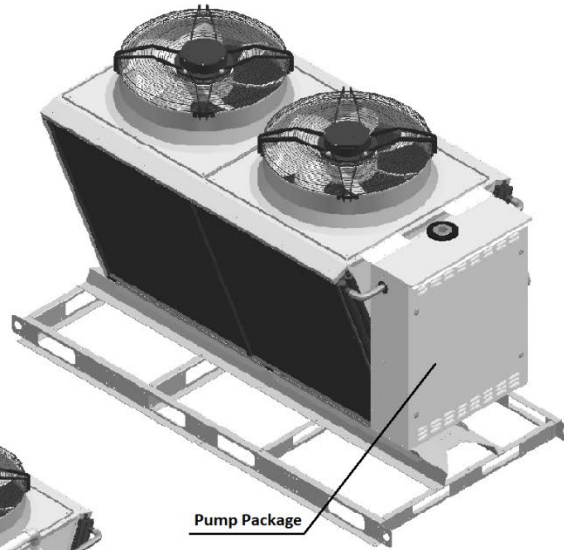
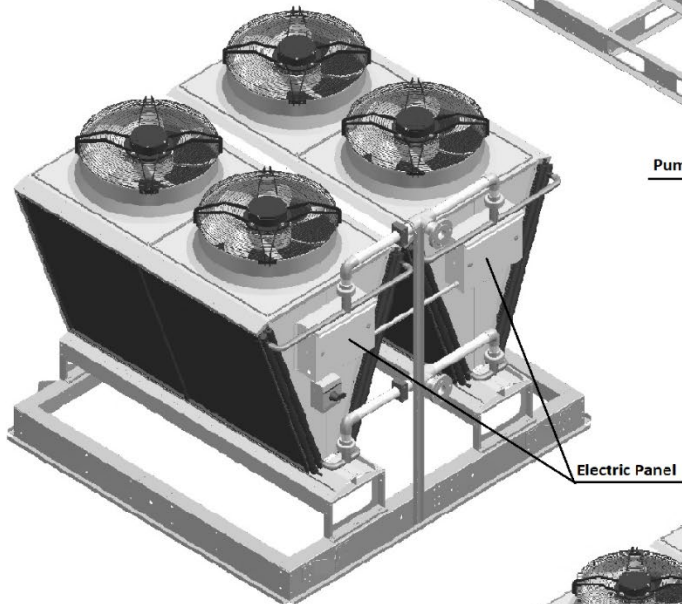
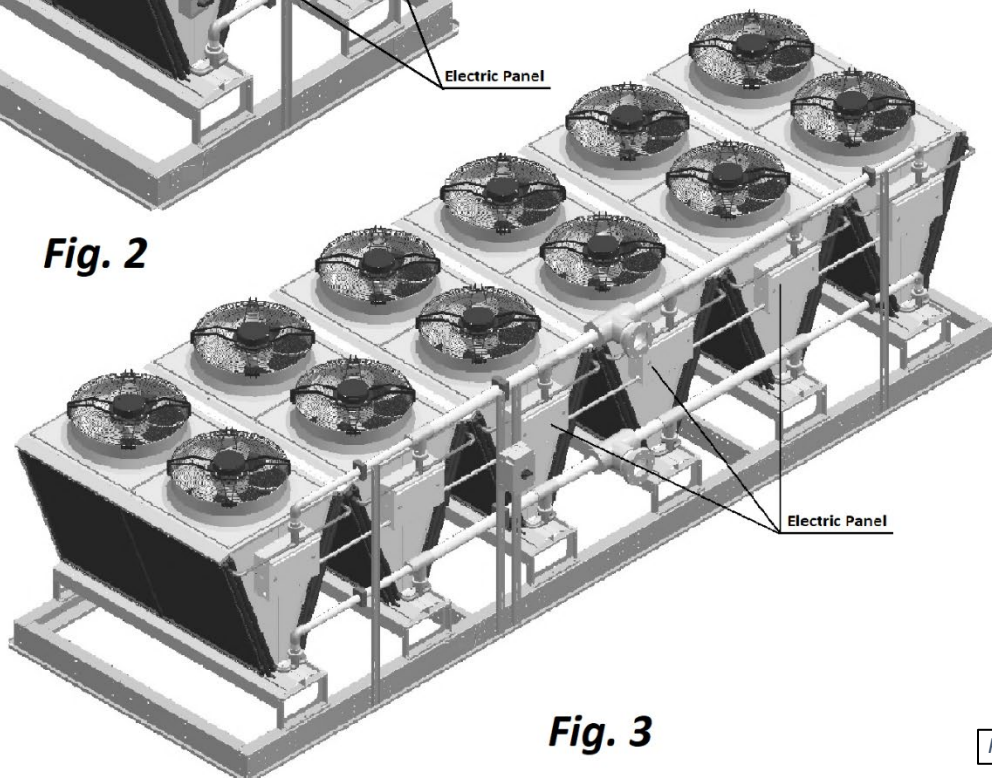

Fig. 1
Fig. 2
Fig. 3
For two-compressor dehumidifier, compressor compartment may have side (Fig.1; same as dehumidifier, shown on Pic. C.1) or end (Fig.2) location. End location is mostly used in higher capacity dehumidifiers.
Three -compressor dehumidifiers (Fig.3) normally have end location of the compressor compartment.
- Fluid cooler NG-V-12 (Pic.C.4, Fig.1) is composed of one such block; NG-V-22 (Fig.2) composed of two such blocks etc. largest single fluid cooler, NG-V-62 (Fig.3) composed of six of them.
As an option, each block of fluid cooler could be equipped with the pump package (as shown on Fig.1 for NG-V-12).